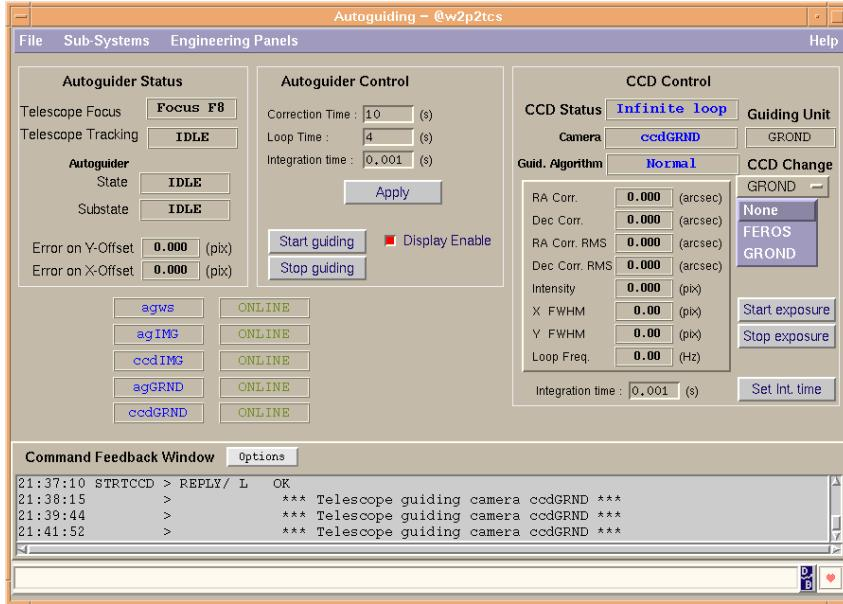

Figure 2.5: Switching between **GROND** and **FEROS** guide camera.
- b. Select GROND below CCD change (see Fig. 2.5, p. 32)
- b. Select FEROS below CCD change (see Fig. 2.5, p. 32)
Check that the **GROND** and **FEROS** guide cameras work by switching between them on the **AG** window (see Fig. 2.5, p. 32). The switching should set the camera in CCD status Infinite loop. It may be necessary to click on Start exposure after switching to obtain this status. If status is Fail, the camera must be restarted (see Sect. 10.3, p. 80).